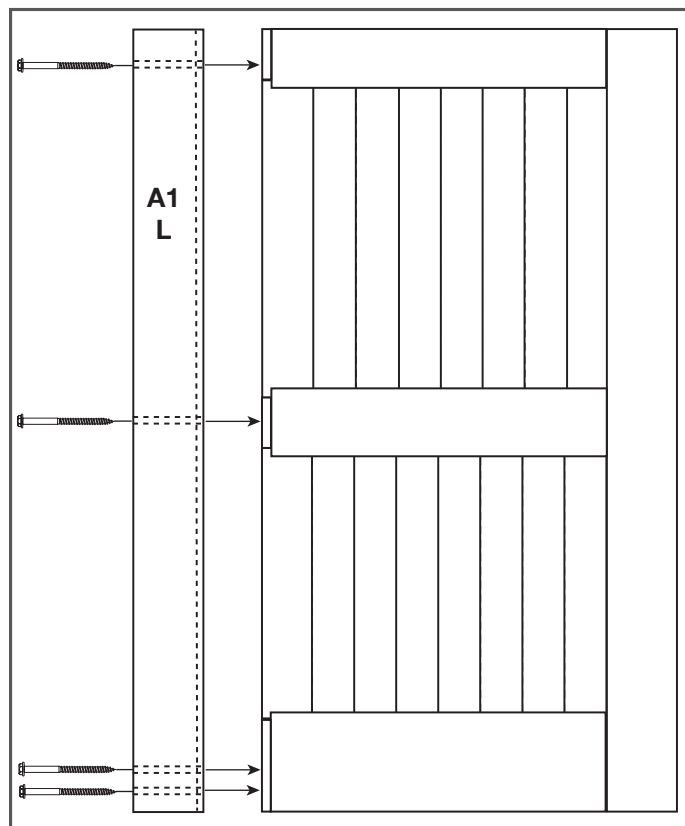

Figure 6
6. Carefully align the left side stile (A1L) to the top, middle, and bottom rails and the top and bottom slats. Gently tap in place with a rubber mallet. Attach to the top, middle, and bottom rails using a socket wrench with a 7/16" socket and the remaining 4 lag screws (D) (Figure 6).